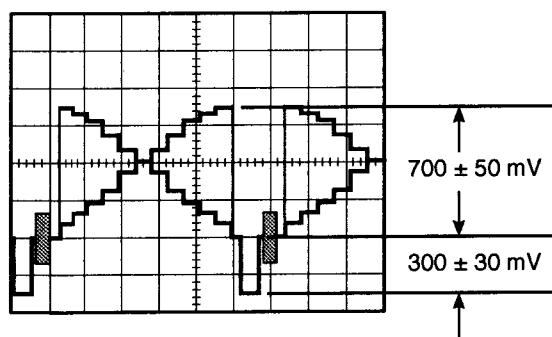

Fig. 5-25
- Confirm that the Video signal becomes 700 ± 50 mV as shown in Fig. 5-25.
- If not, adjust data with the **ARROW** keys so that the Video signal level becomes 700 ± 50 mV as shown in Fig. 5-25.